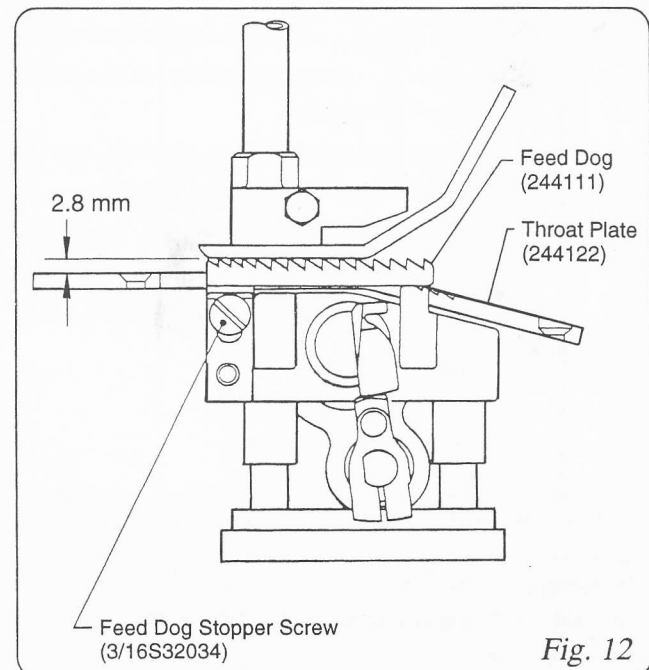

Fig. 12
3. Position of Feed Dog (Fig.12)